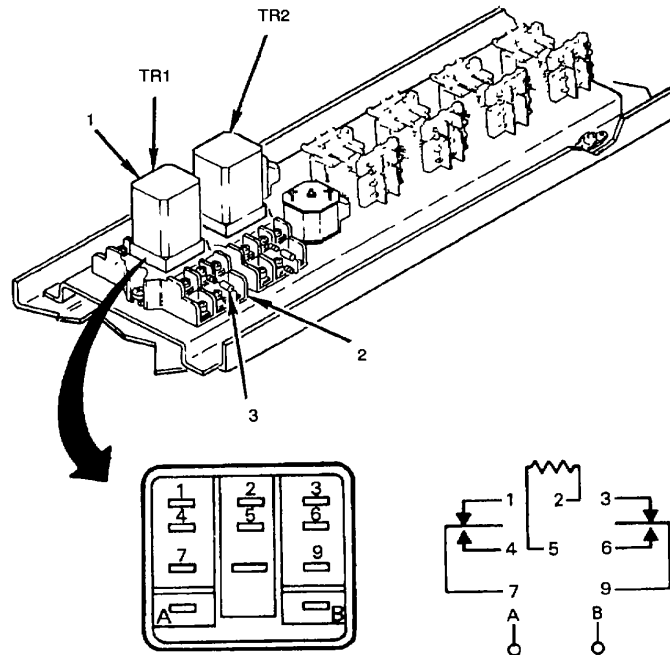

Figure 4-32. Time Delay Relays (TR1 and TR2)
- a. Check for loose wire connections (see fig 4-32)
- c. Check external resistor (3) for signs of overheating Replace if damaged.